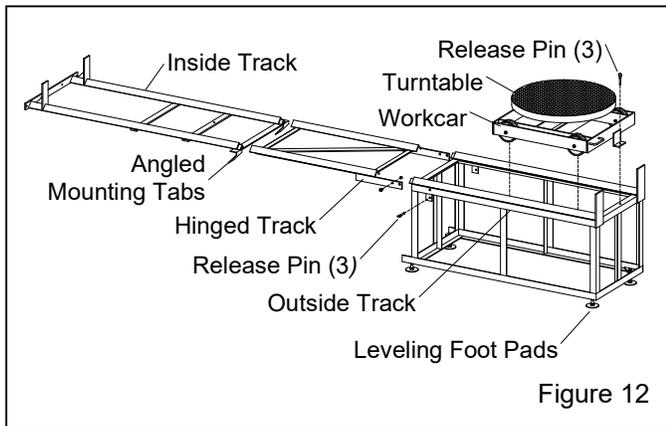

Figure 12
3.5.1 These instructions cover field installation of the 2000 lb. capacity track and work cart with turntable. If the track was ordered with the cabinet, it is partially assembled at the factory. Disregard the instructions that do not apply. Refer to Figure 12 for arrangement of the major components.